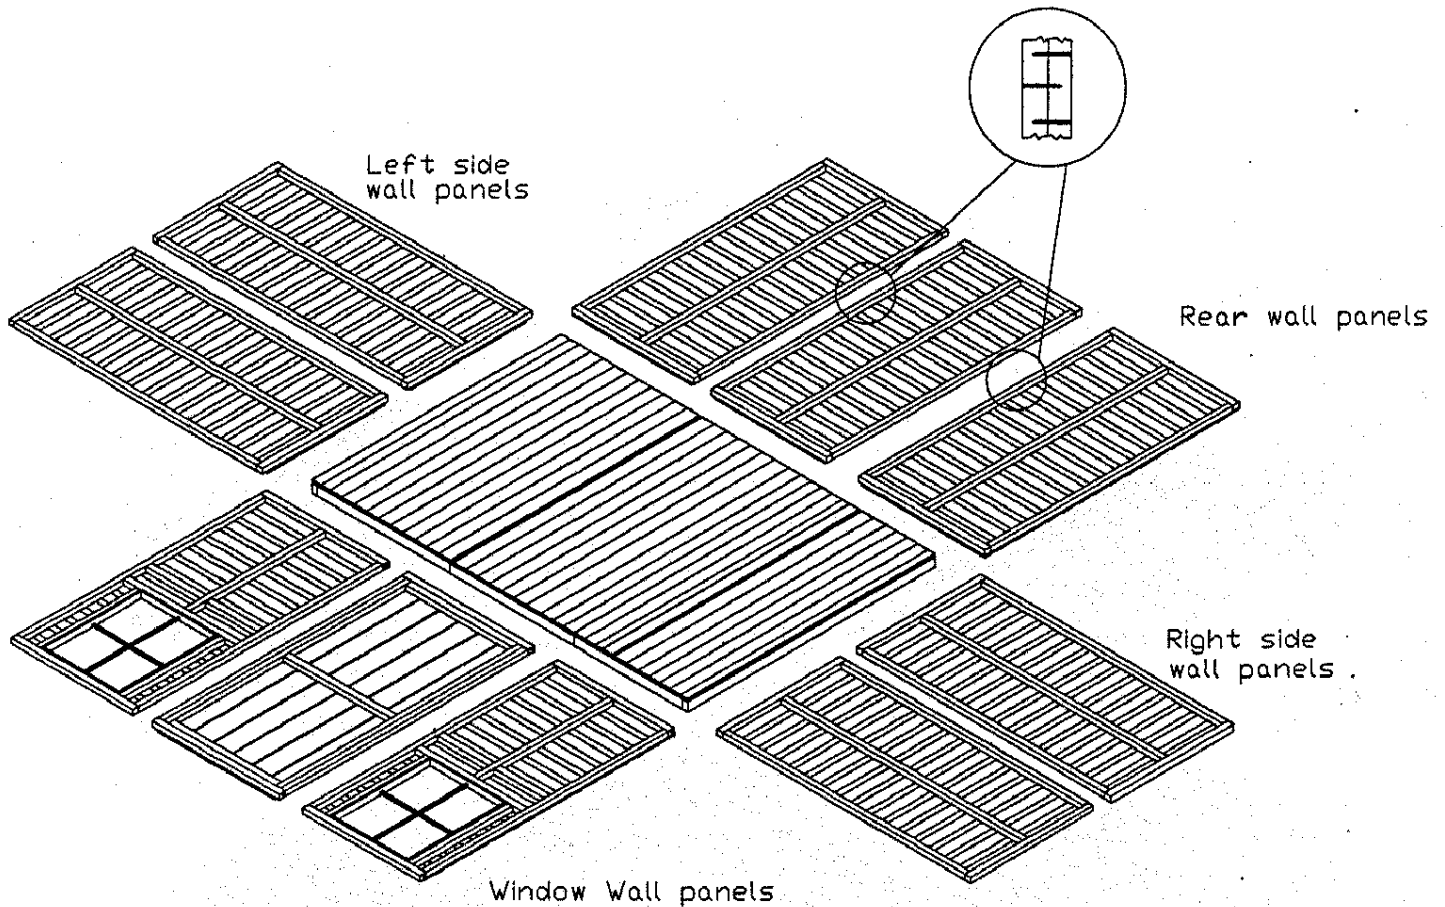

Figure C2
2. Once the panels are completed, begin fastening them together, starting with the left side and then the rear [see Figure C2]. When positioning panels together, make sure they are aligned so the 2" gap is located in the center. The detail in Figure C2 shows the alternate screw pattern for fastening the 2x3 wall frames together.